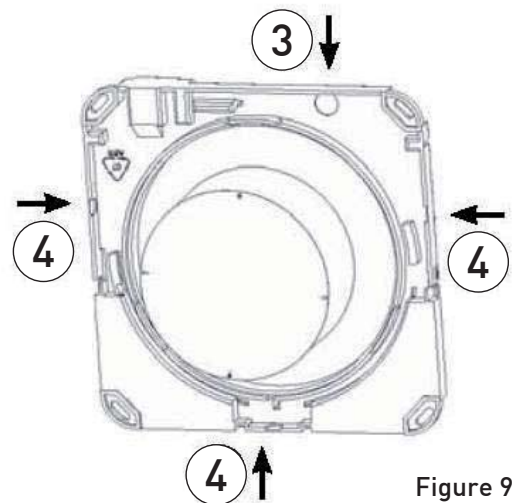

Figure 9
2. Fracture the shutter provided for the transfer of connections [3], in the case of non-concealed external connections, fracture the zones provided for [4] both on the motor support and on the cover (Figure 9).